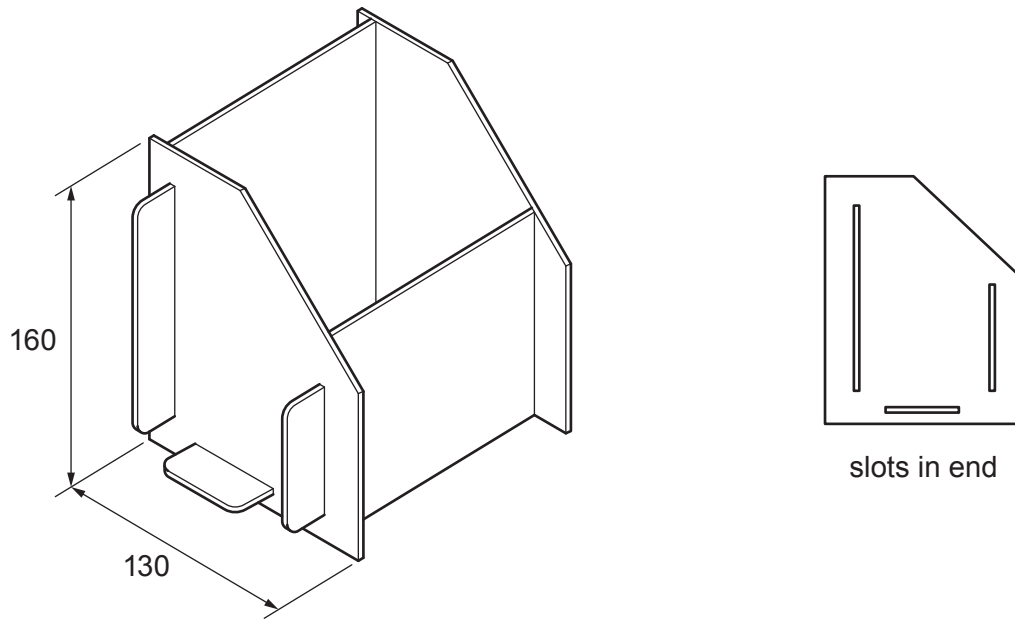

Fig. 10.1
- 10 Fig. 10.1 shows views of a desk tidy made from 3 mm thick MDF. The front, back and base fit into slots in the ends.